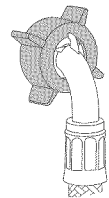

Fig.6 Washer end of hose (elbow end)
- Install elbow ends of hoses onto clothes washer inlet valves (refer to Fig.6). The valves are marked on the back of the washer (H=hot, C=cold). Ensure the hot valve is connected to the hot faucet and the cold valve is connected to the cold faucet.